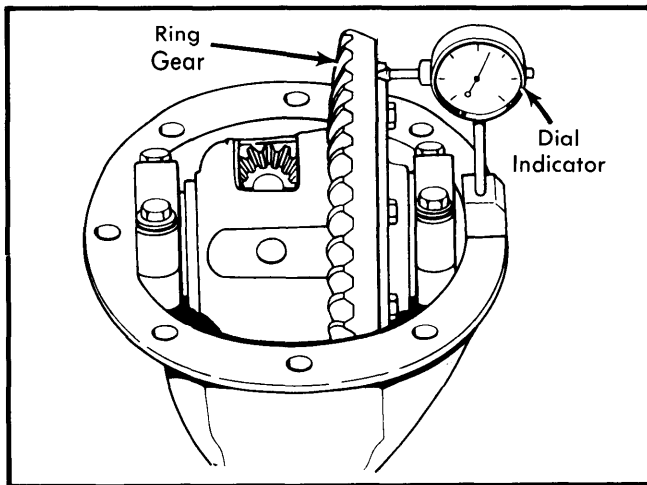

Fig. 12 Checking Ring Gear Backface Runout
4) Remove case from carrier, remove side bearings and install shim packs, then reinstall bearings. Install differential case into carrier, tapping carefully into place. Install side bearing caps in original positions, install and tighten attaching bolts. Measure runout of ring gear. If runout exceeds .002" (.05 mm), correct by cleaning or replacing parts. See Fig. 12.